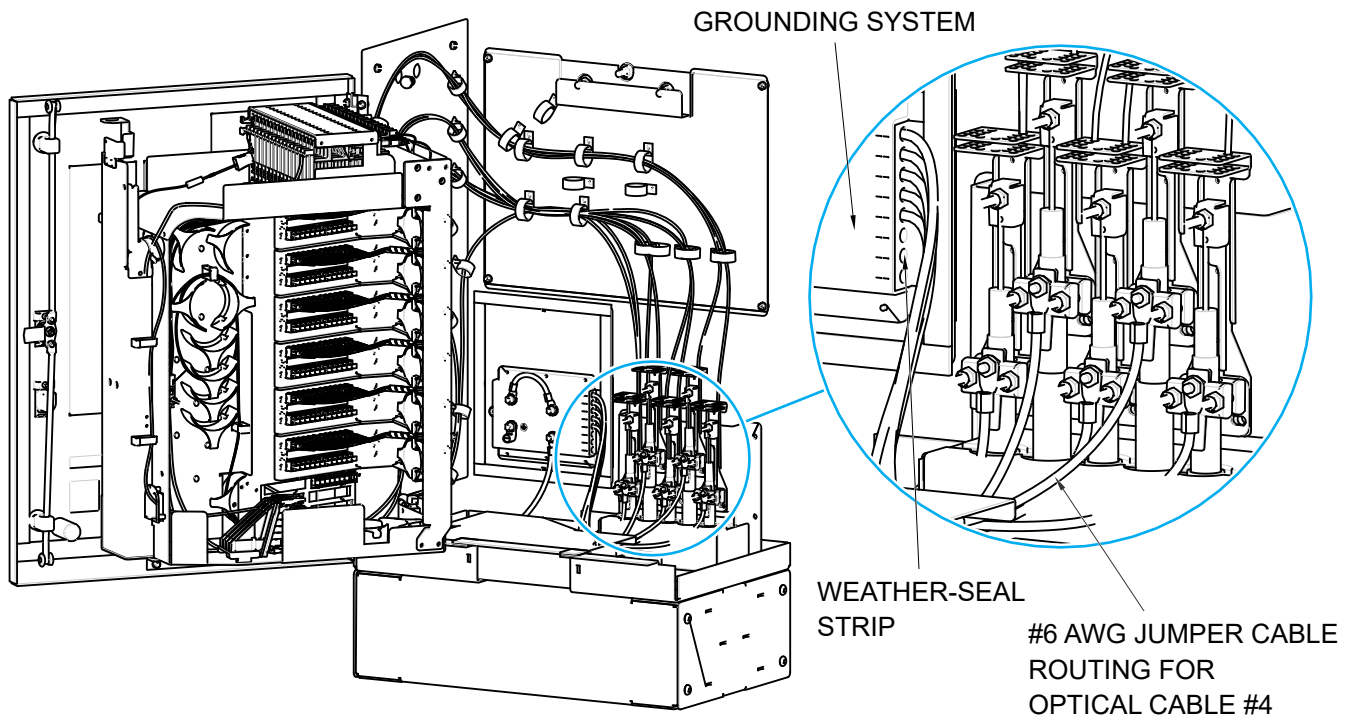

Figure 28. Cable Grounding System - Interior View
14.13 Locate the weather-seal strip attached to the right side of the cabinet grounding system as shown in Figure 28.